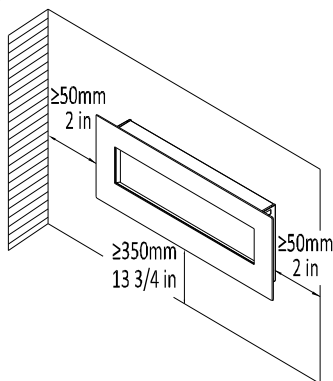

Fig. 1
2. Referring to Fig. 1 below select a suitable position in which to mount the heater horizontally – use a spirit level to achieve this.